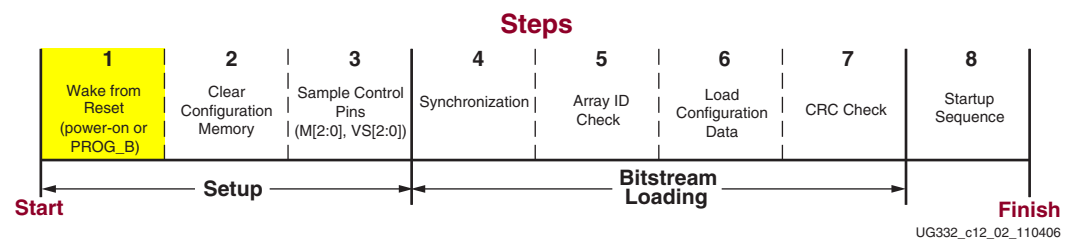

Figure 12-2: FPGA Wake from Reset
1. Hold the `PROG_B` pin Low, which holds the FPGA in reset, Step 1 shown in Figure 12-2, page 225.